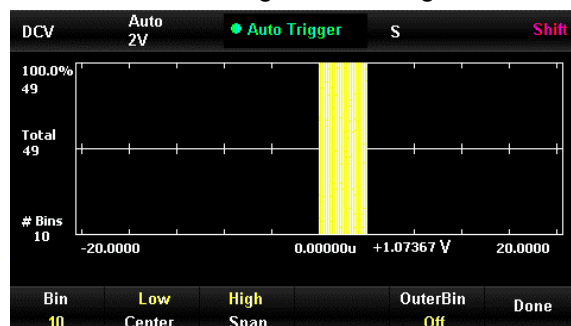

Figure 2-51 Histogram manual setting
2) Press [Setting] to enable manual setting mode as Figure 2-51.